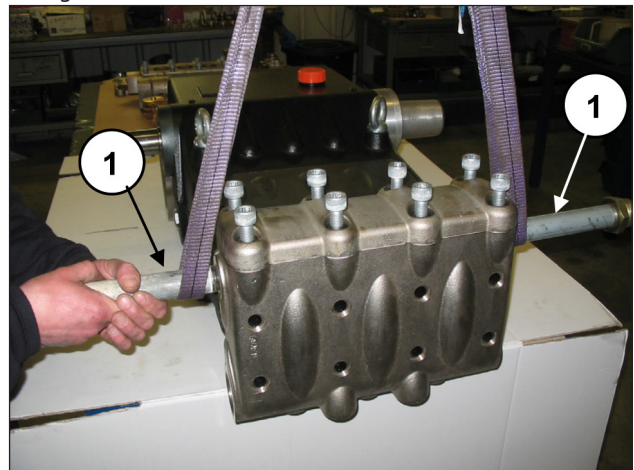
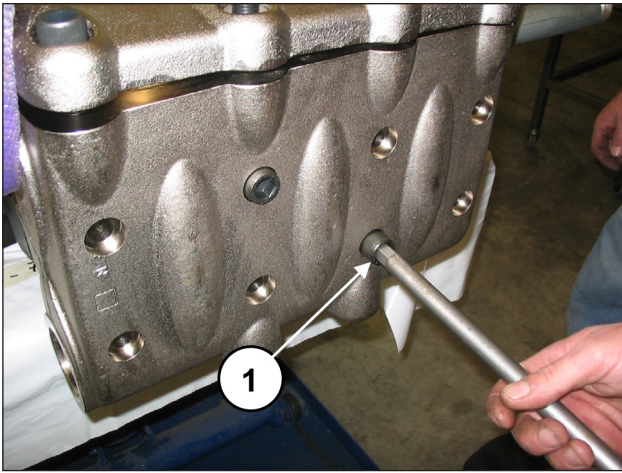

Fig. 104
Fig. 105
Apply two supports with G2" threading to the outlet connections of the head (pos. ①, Fig. 104) and then unscrew the 8 M16x150 screws (pos. ①, Fig. 105).